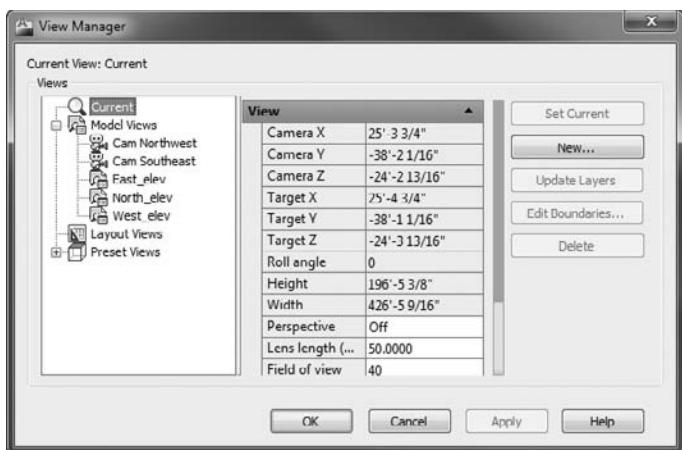

FIGURE 17.10 The View Manager dialog box showing the two new cameras listed
11. Click the View tab, and then click the Named Views button to open the View Manager. Expand the Model Views entry in the Views window, and notice that the two cameras now appear in the list, as shown in Figure 17.10.